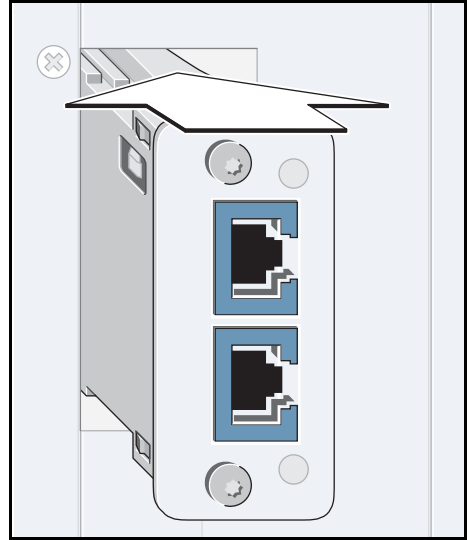

Fig. 2: Example: Inserting the interface module
2. Insert the IMenip2 interface module into the appropriate slot on the system component until it catches (example in Fig. 2).